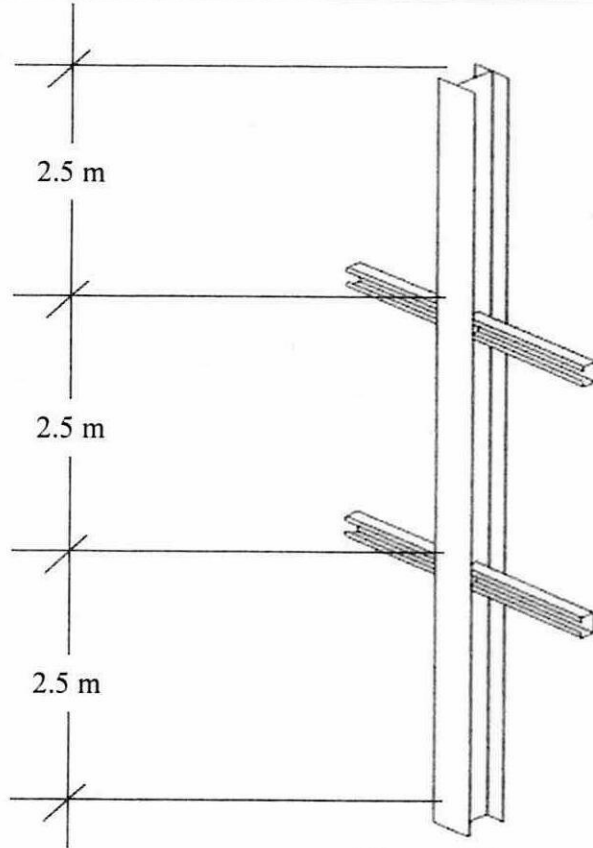

Figure Q2
- Q2** A column with a 305 x 305 x 97 UC grade S 275 and a height of 7.50 m is shown in **Figure Q2**. The two ends of the column have not the possibility of a relative movement in both directions, and they are pinned for buckling about z-z axis and fixed for buckling about y-y axis. The horizontal intermediate supports provided by the side rails, is to ensure a lateral support of the column in the thirds of its height. Steel grade S 275. Determine the maximum design axial compressive load, N_{Ed} that the column can support.